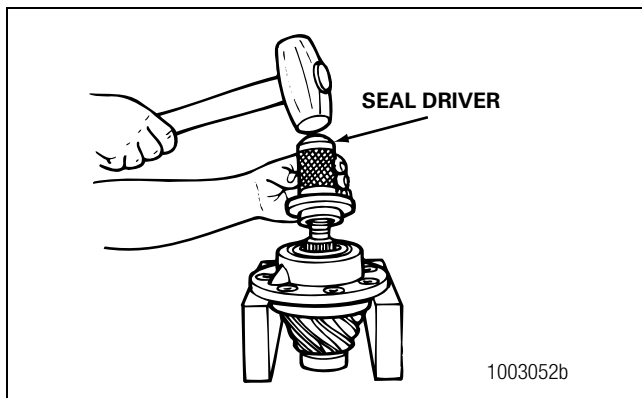

Figure 5.29
- If a press is not available: Use a mallet and the sleeve or driver to install the seal. Figure 5.29.